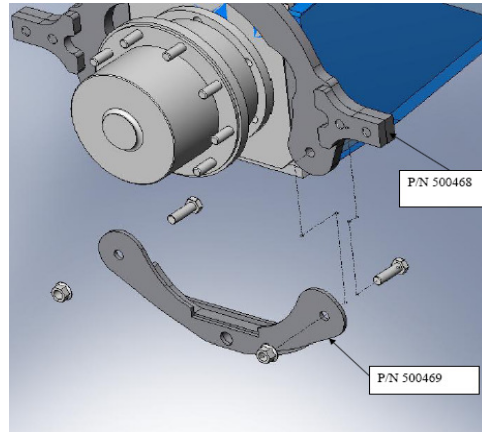

Fig. 8
- e. Bolt the Limiter Rear Lower Bracket to the Limiter Rear Upper bracket by using (2) 5/8-11NC x 2.00 Gr. 8 plated bolts and (2) 5/8-11 Gr. 8 plated Flange Nuts. **Fig. 8**